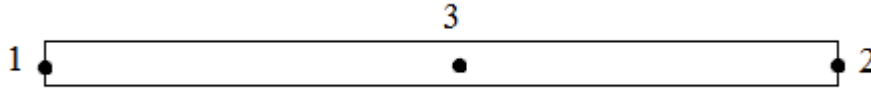

Fig.3: A three-noded beam element (Figure for Q.9)
Q.9: Formulate and draw the shape functions for a three-noded beam element shown in Fig. 3. The third node 3 is at the center of the beam. Take length of beam as L .